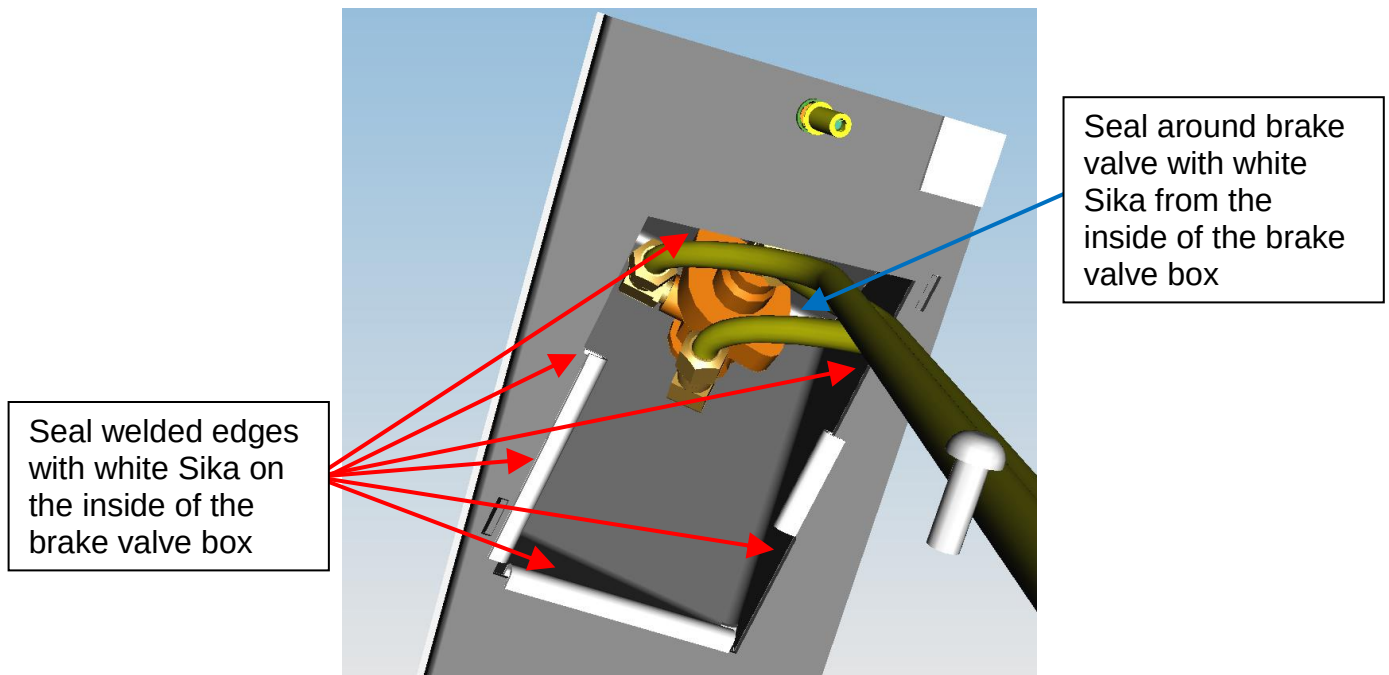

Figure 4: Seal the Brake Valve Box with White Sika
- j. Apply a bead of white Sika (NF PN 055701) around the welded edges on the inside of the park brake valve riser box to seal any gaps and apply a bead of white Sika (NF PN 055701) on the underside of the park brake valve edges too. See Figure 4.